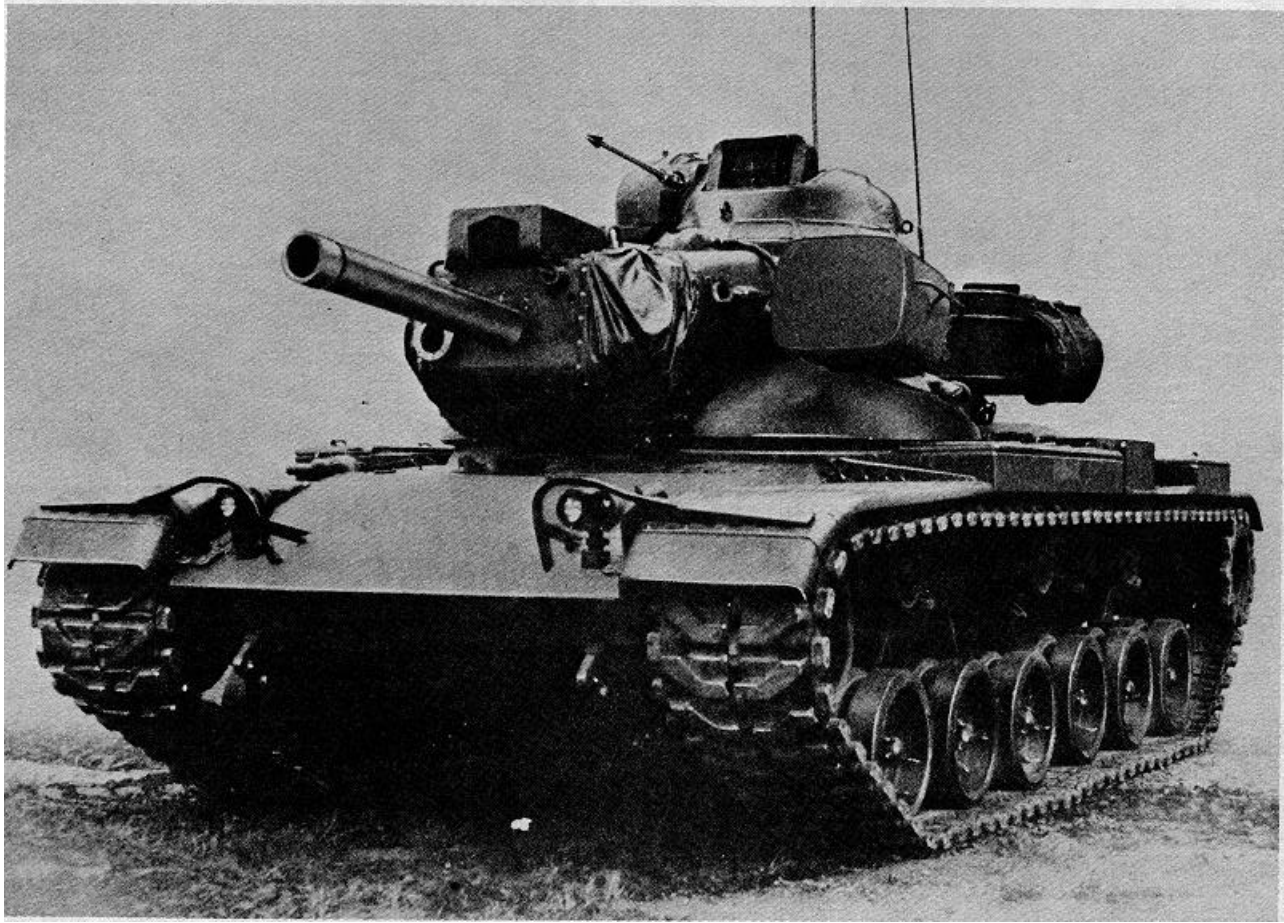

Figure 2-3. Tank, combat, full-tracked, 152-mm-gun-launcher, M60A2.
d. *M60A2 (fig 2-3)*. The M60A2 armament, which includes a 152-mm gun launcher (M162), capable of firing either conventional ammunition or missiles, is mounted to the turret in a combination mount with a